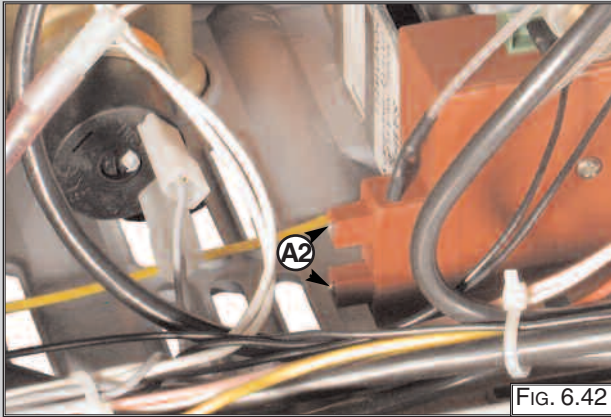

FIG. 6.42
1. Disconnect the ignition leads "A2" by pulling upward (FIG. 6.42);